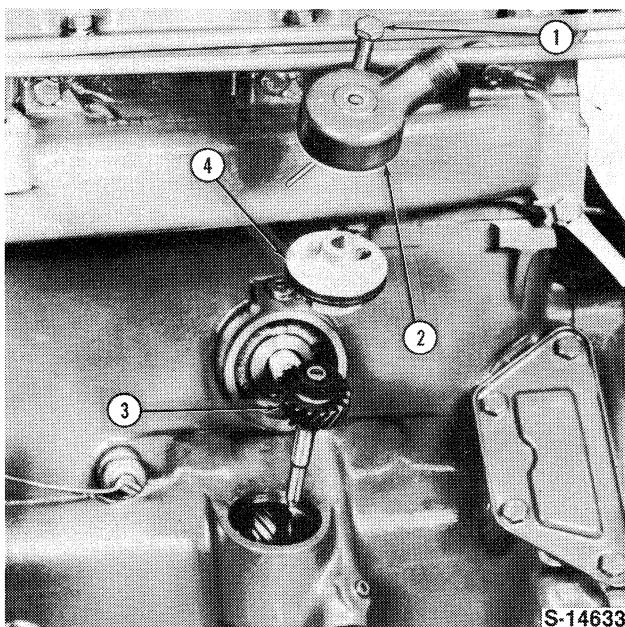

Figure 34
4. Slacken the retaining bolt then withdraw the driveshaft adapter assembly and the oil pump drive gear, Figure 34.